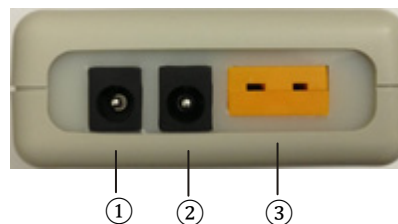

Figure 2. Connectors of SYL-1615 (bottom view).
Figure 2 shows the terminals of the controller. Connect the AC to 12 VDC power adaptor to the POWER connector (①) and wall outlet. Connect the fan connector to the OUTPUT connector (②). The polarity for this socket is center pin positive (+), outer collar negative (-). Connect the type K thermocouple to the INPUT socket (③). Please note that thermocouple connector also has polarity. The wide blade should go to the wide slot.